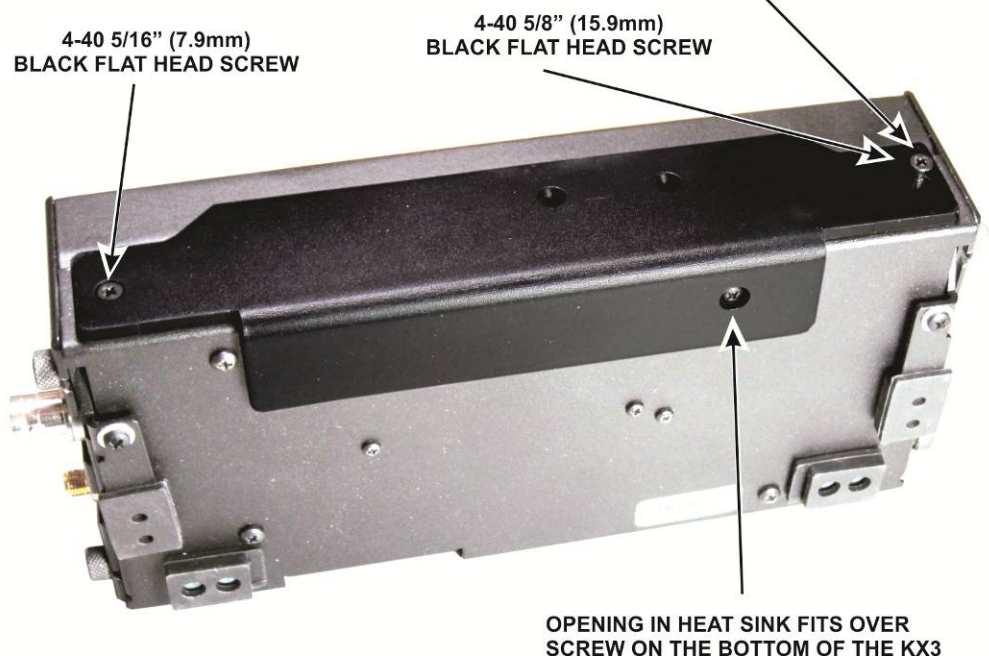

Figure 8. Mounting the Enhanced Heat Sink on the KX3.
□ Close the KX3 enclosure and stand it vertically as shown in Figure 8. You don't need to tighten the thumb screws yet. Attach the cover with the black flat head screws as shown. Carefully place the heat sink on the enclosure and secure it with the screws shown. The thermal pad presses against the powder coating on the bottom cover. Although the thermal pad is tacky, the heat sink can be moved as needed to align the screw holes.